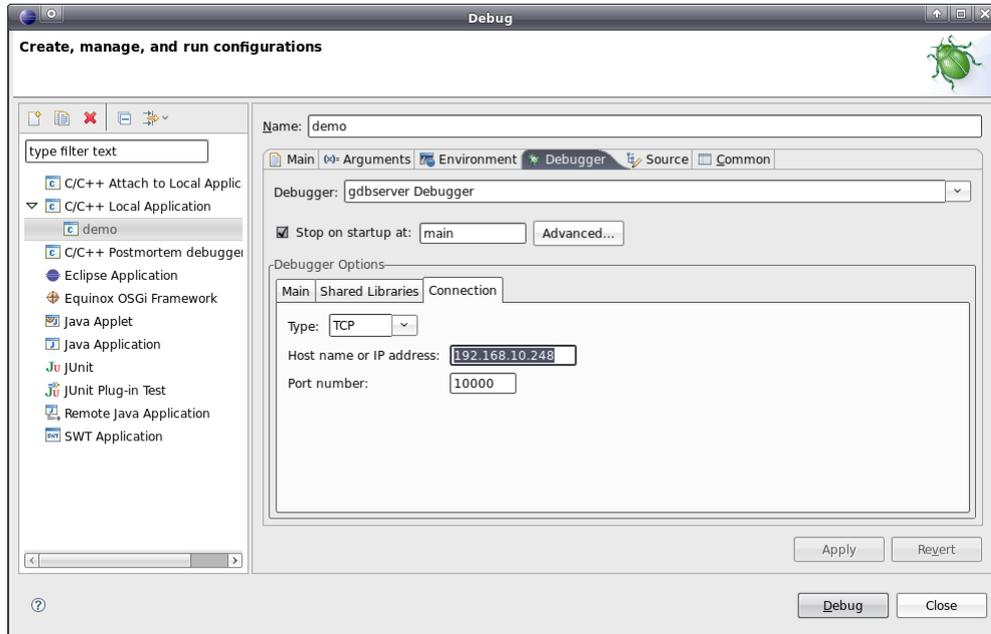

Figure 60: Configuring the connection to the Target
Use `"192.168.10.82"` as IP address of the Linux development system (compare section 6.5 for the determination of the IP address). The port number following the colon may be chosen freely (here: `"10000"`), but it must correspond with the port number of the Target connection within Eclipse as described in the following section 2.3 (also compare Figure 60).
2.3 Configuring the connection to the Target (see Figure 60)
The configuration of the connection to the Target also takes place in Tabsheet "Debugger". Hence, enter the appropriate information in section "Debugger Options" in Sub-Tabsheet "Connection" (see Figure 60). In area "Host name or IP address" the IP address of the ECUcore-9263 as defined in section 5.4 must be entered ("192.168.10.248" for the example above). Enter the Port number defined in point 1.4 in area "Port number" when command "gdbserver" is called (for this example: "10000").